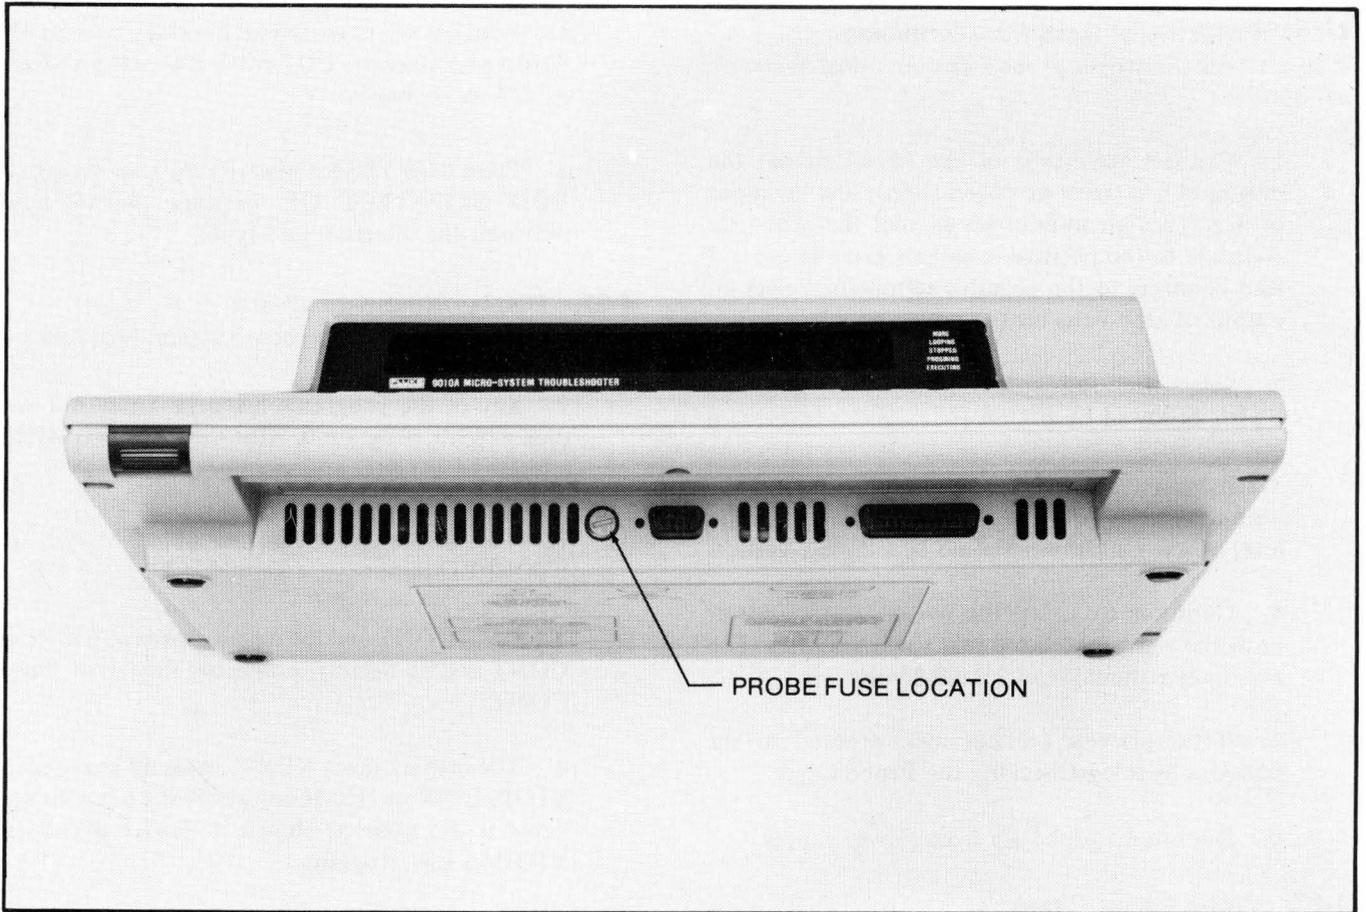

Figure 4-2. Probe Fuse Location
1. Tilt up the front of the instrument and locate the probe fuse cap shown in Figure 4-2.